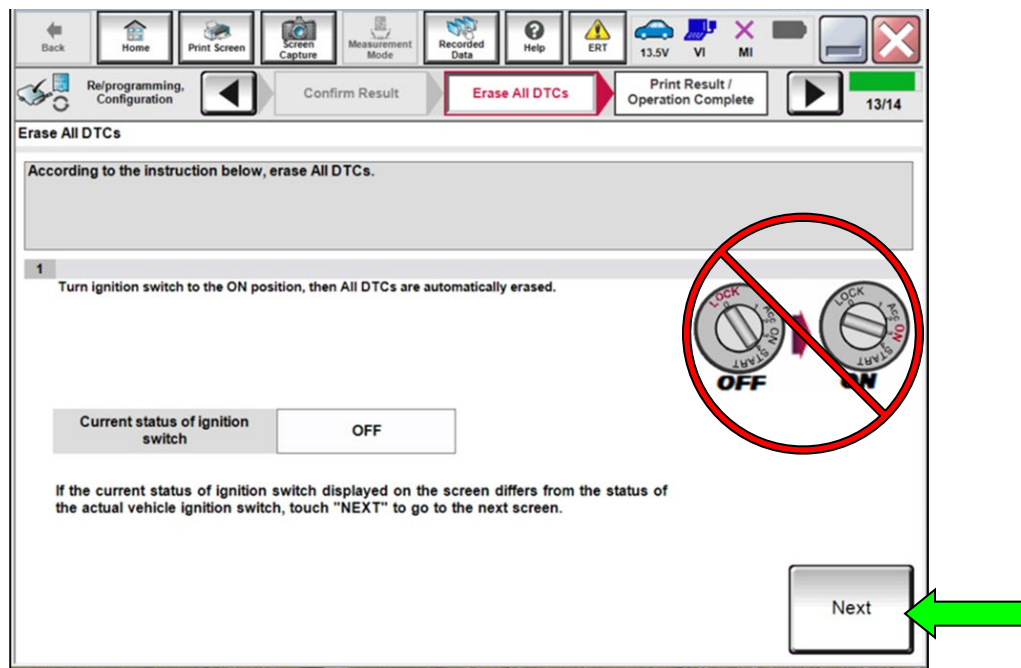

Figure 26
37. Once the screen in Figure 26 displays, select **Next** ONLY. **DO NOT** change ignition switch position.